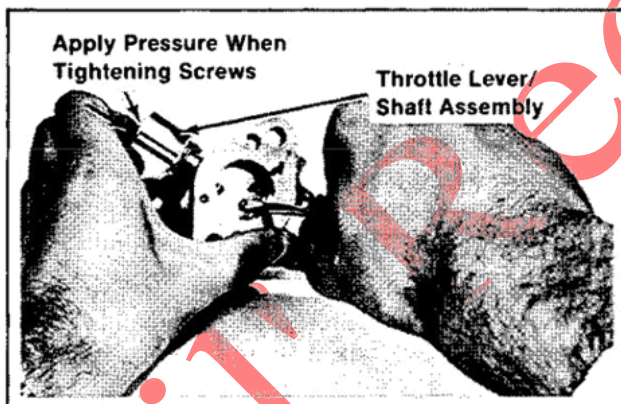

Figure 6-14. Installing Throttle Lever/Shaft.
3. Apply finger pressure to the throttle lever/shaft to keep it firmly seated against pivot in carburetor body. Rotate the throttle shaft until the throttle plate fully closes the bore around its entire perimeter; then tighten screws. Refer to Figure 6-14.